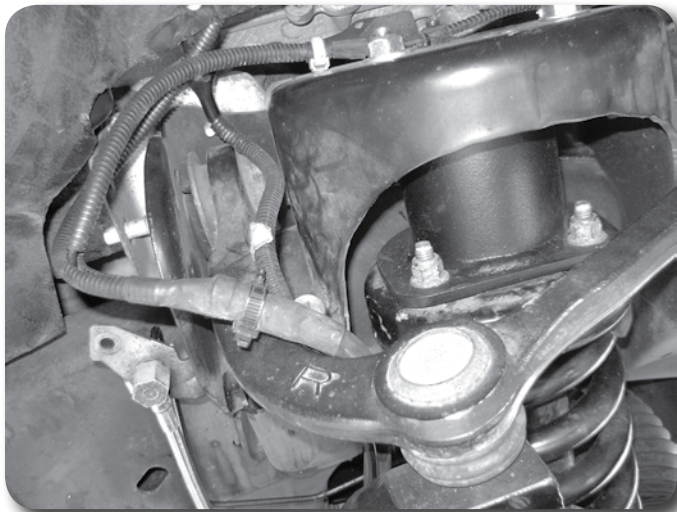

Figure 29
48. Install the strut assemblies in the appropriate sides on the vehicle (Figure 29). The flat side will face 'out' on the vehicle. Fasten the spacers to the factory strut mounts with 10mm nuts and 3/8" USS washers on the welded studs. Leave hardware loose.